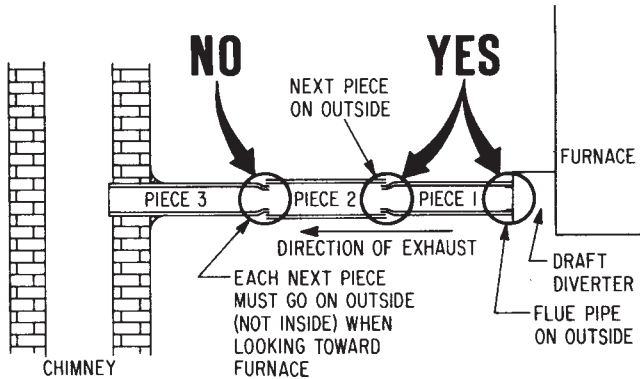

Figure 6
7. The flue pipe **MUST** be on the outside of the draft diverter collar. See **Figure 6**.
8. Each new piece of flue pipe that is connected when getting farther away from the furnace **MUST** connect on the outside of the previous one. See **Figure 6**. Remember, the exhaust must flow "into" the next pipe.